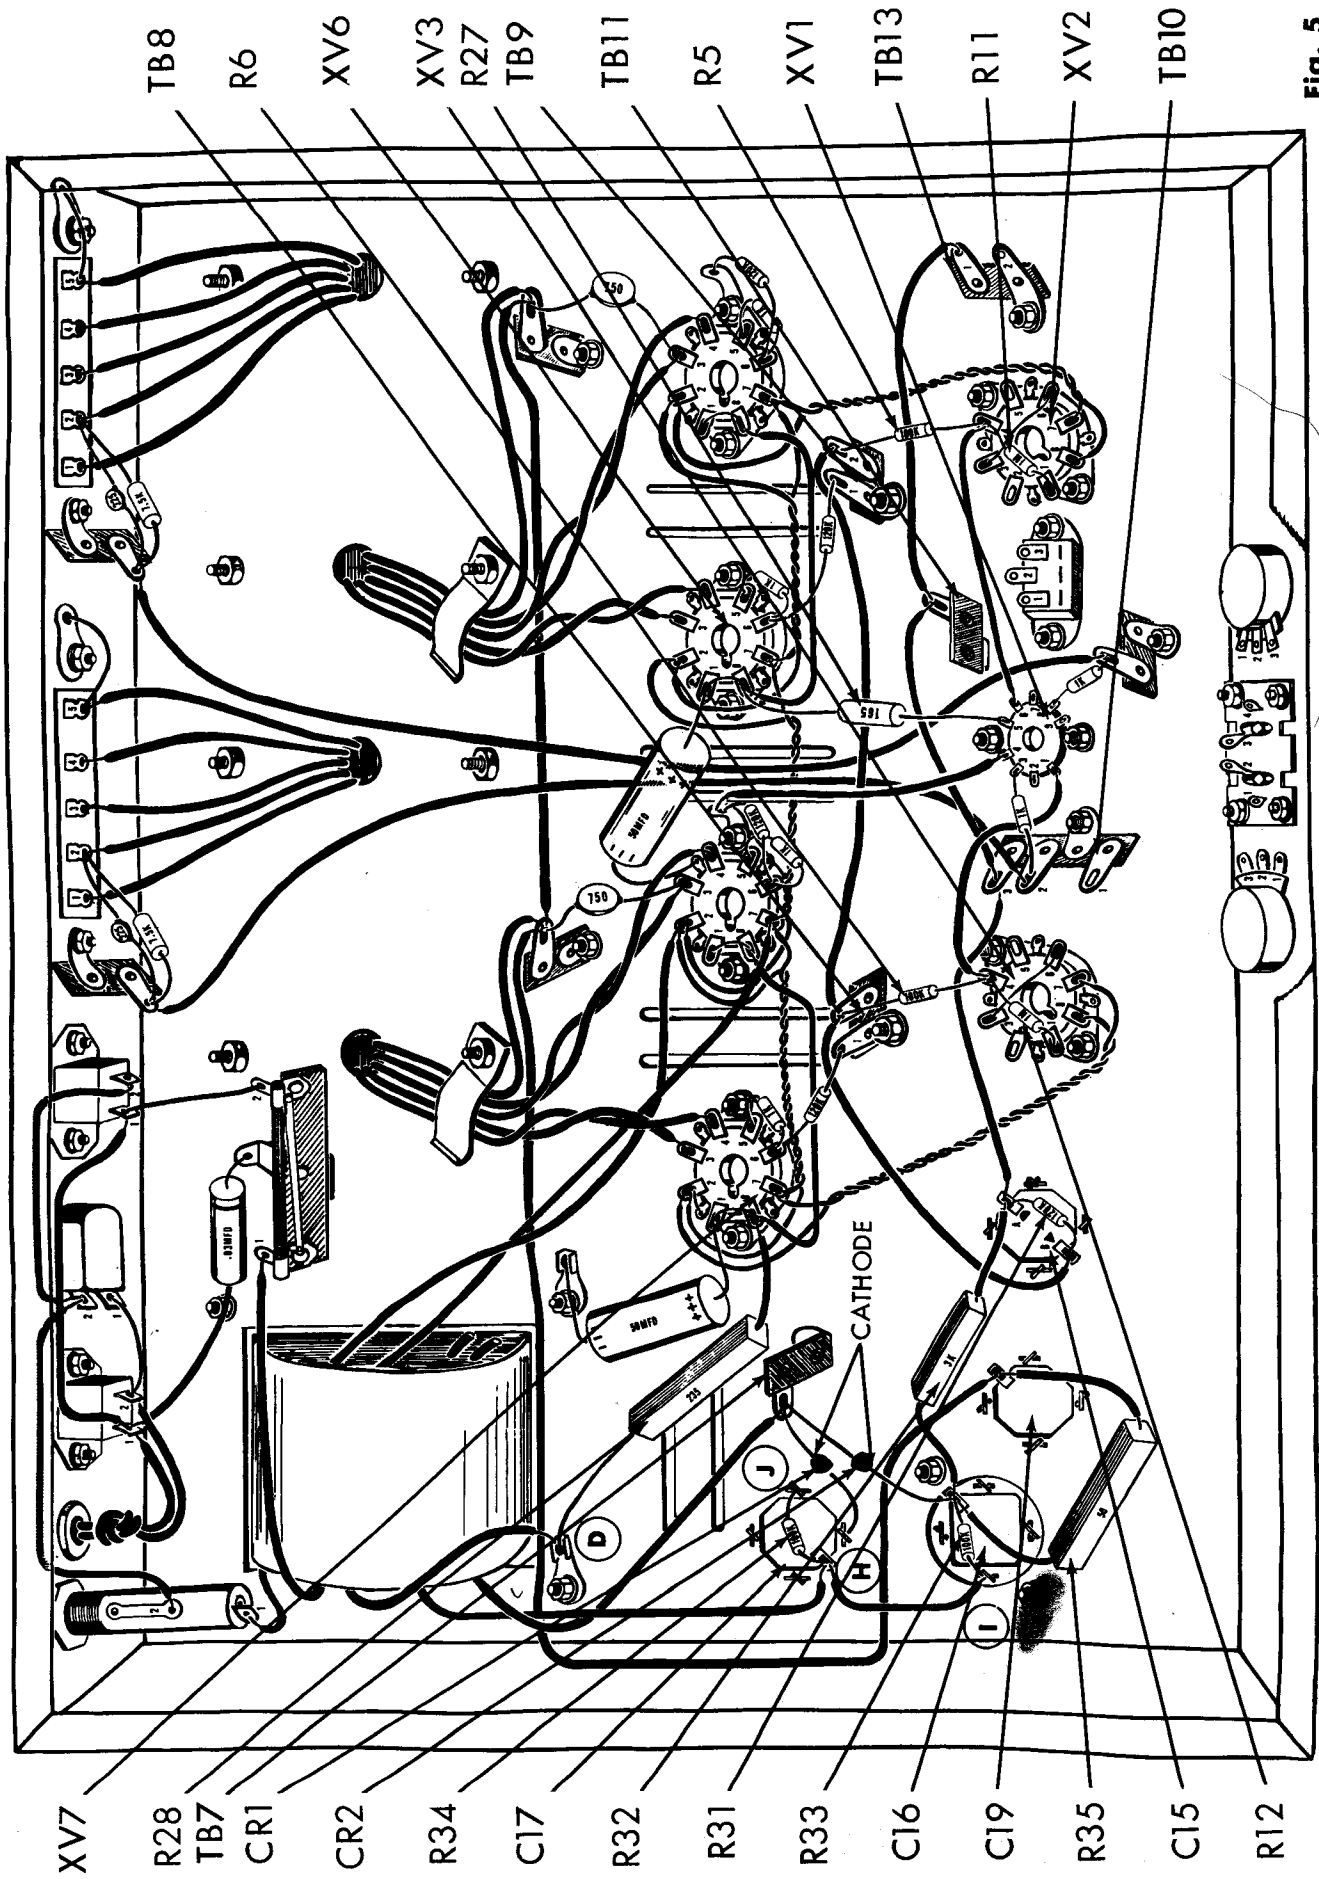

Fig. 5
- (✓) 1. Fig. 5. Cut both leads on a 235Ω 10 watt wire wound resistor, R28, to 1 1/4". Cover one lead with a 1" piece of spaghetti and connect to XV7-8 (S3). Connect the remaining lead to ground lug "D" (S2).
- ( ) 2. Fig. 5. Cut both leads on a 165Ω 5 watt wire wound resistor, R27, to 1". Connect from XV6-8 (S3) to XV1-5 (S1). Dress the adjacent leads away from R27.
- (✓) 3. Fig. 5. Connect a 3" piece of red wire from C17 (C) to lug "I" at C16 (C).
- (✓) 4. Fig. 5. Cut all leads on two 100K (brown, black, yellow, silver) resistors, R33 and R34, to 1/2". Connect R33 from C16 (C) to lug "I" (S2) at C16. Do not short lug to chassis ground. Connect R34 from C17 (S3) to lug "J" (S1) at C17.
- (✓) 5. Fig. 5. Cut both leads on a 50Ω 10 watt wire wound resistor R35, to 1 1/4". Cover each lead with a 1" piece of spaghetti. Connect from C16 (C) to C19 (S2).
- (✓) 6. Fig. 5. Connect a 6" piece of orange wire from C15-B (C) to TB8-2 (C).
- (✓) 7. Fig. 5. Cut both leads on a 3000Ω, 5 watt, wire wound resistor, R32, to 1 1/2". Cover each lead with a 1 1/4" piece of spaghetti, connect from C16 (C) to C15-A (C).
- (✓) 8. Fig. 5. Connect a 7" piece of orange wire from TB8-2 (C) to TB9-2 (C).
- (✓) 9. Fig. 5. Connect a 5" piece of red wire from C15-A (C) to TB10-3 (C).
- (✓) 10. Fig. 5. Connect a 4" piece of red wire from TB10-3 (C) to TB11 (C).
- (✓) 11. Fig. 5. Connect a 4" piece of red wire from TB11 (C) to TB13-1 (C).
- (✓) 12. Fig. 5. You have been supplied in your kit with two silicon rectifiers, CR1 and CR2. Note that excessive heat on the leads of these rectifiers can ruin them. When you solder be careful not to apply any excessive heat to the junctions.
- (✓) 13. Fig. 5. Connect a 4" piece of green wire from XV1-6 (S1) to XV2-4 (C).
- (✓) 14. Fig. 5. Cut both leads on a 120K (brown, red, yellow, silver) resistor R31, to 1/2". Connect from C15-B (S2) to C15-A (C).
- (✓) 15. Fig. 5. Cut all leads on two 100K (brown, black, yellow, silver) resistors, R5 and R6, to 3/4". Connect R5 from XV2-4 (C) to TB9-2 (S2). Connect R6 from XV3-4 (C) to TB8-2 (S3).
- (✓) 16. Fig. 5. Connect a 1 1/2" piece of bare wire from XV2-3 (C) to XV2-6 (S1).
- (✓) 17. Fig. 5. Connect a 1 1/2" piece of bare wire from XV3-3 (C) to XV3-6 (S1).
- (✓) 18. Fig. 5. Cut all leads on two 1 meg (brown, black, green, silver) resistors, R11 and R12, to 1/2". Connect R11 from XV2-1 (C) to XV2-4 (S3). Connect R12 from XV3-1 (C) to XV3-4 (S3).